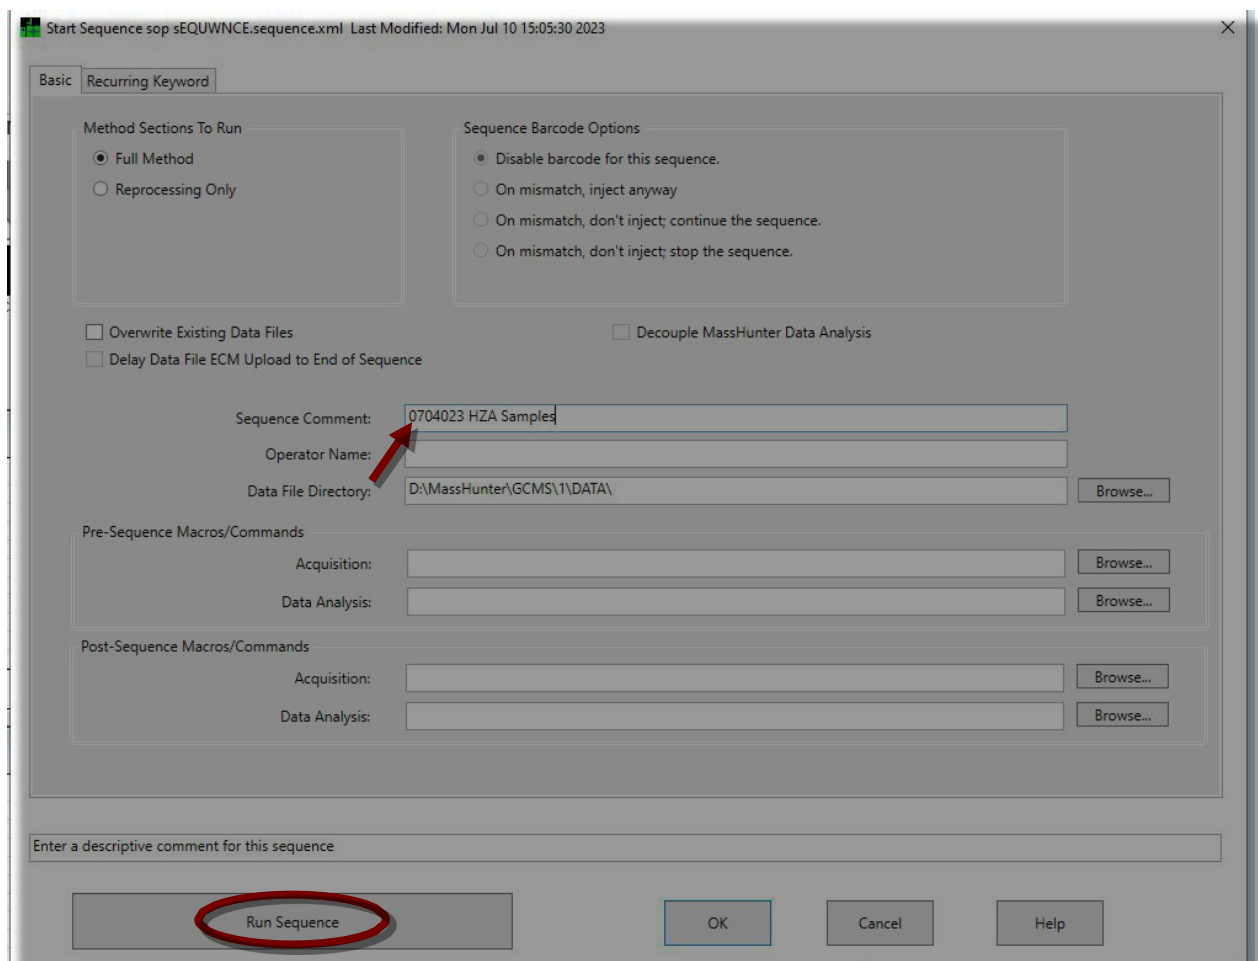

Figure 31. Running the GC-MSD sequence.
2. In the **Start Sequence** dialog box (Figure 31), edit the **Sequence Comment** field to ensure the comment is relevant to the current analysis sequence and then click **Run Sequence**.